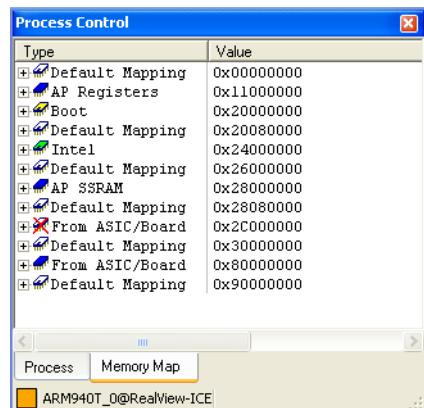

Figure 9-3 Example of a memory map
3. Select **Memory Map Tab** from the **View** menu to display the Process Control view and bring the **Memory Map** tab to the front. Figure 9-3 shows an example: